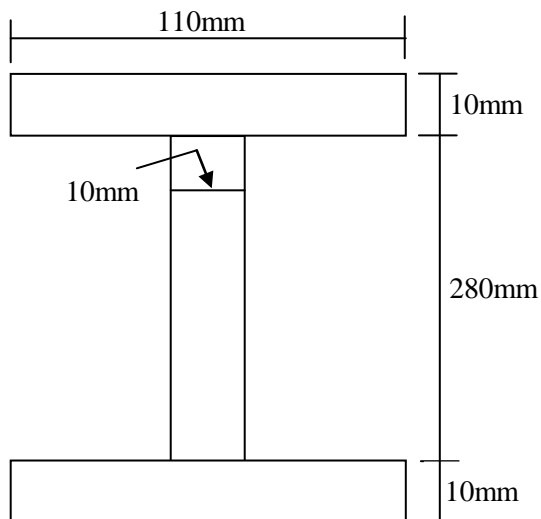

Figure 3
- (b) Figure 3 shows a beam cross section subjected to a maximum shear force of 250kN. **07**